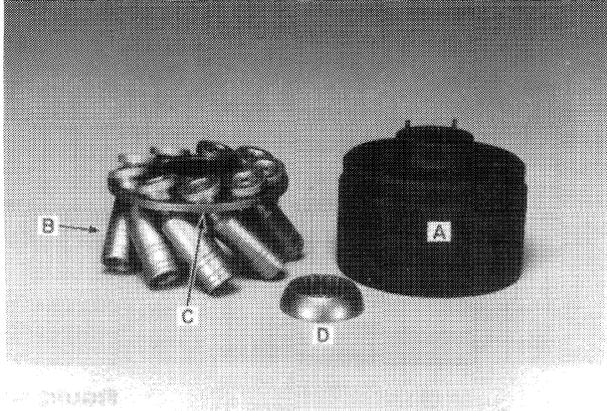

FIGURE 5-6
7. The rotating group parts are shown in Figure 5-6. Lift these parts out of the rotating block and carefully lay them on cardboard to avoid damage.